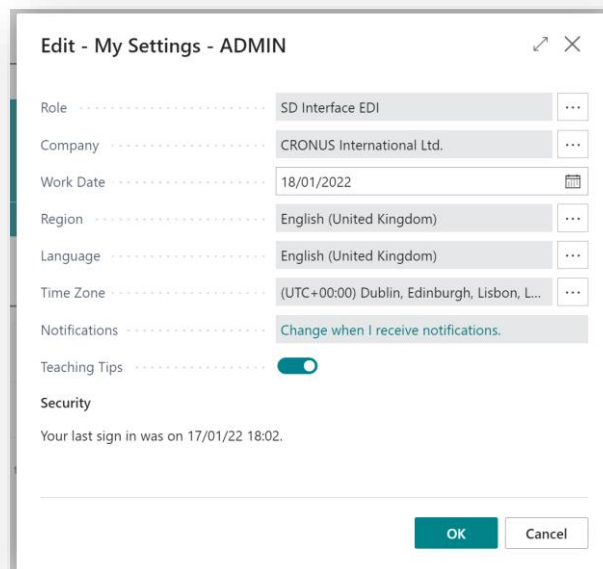

Figure 4-6
4. The **SD Interface EDI** role should now be displayed in the **Role** field (*Figure 4-6*).